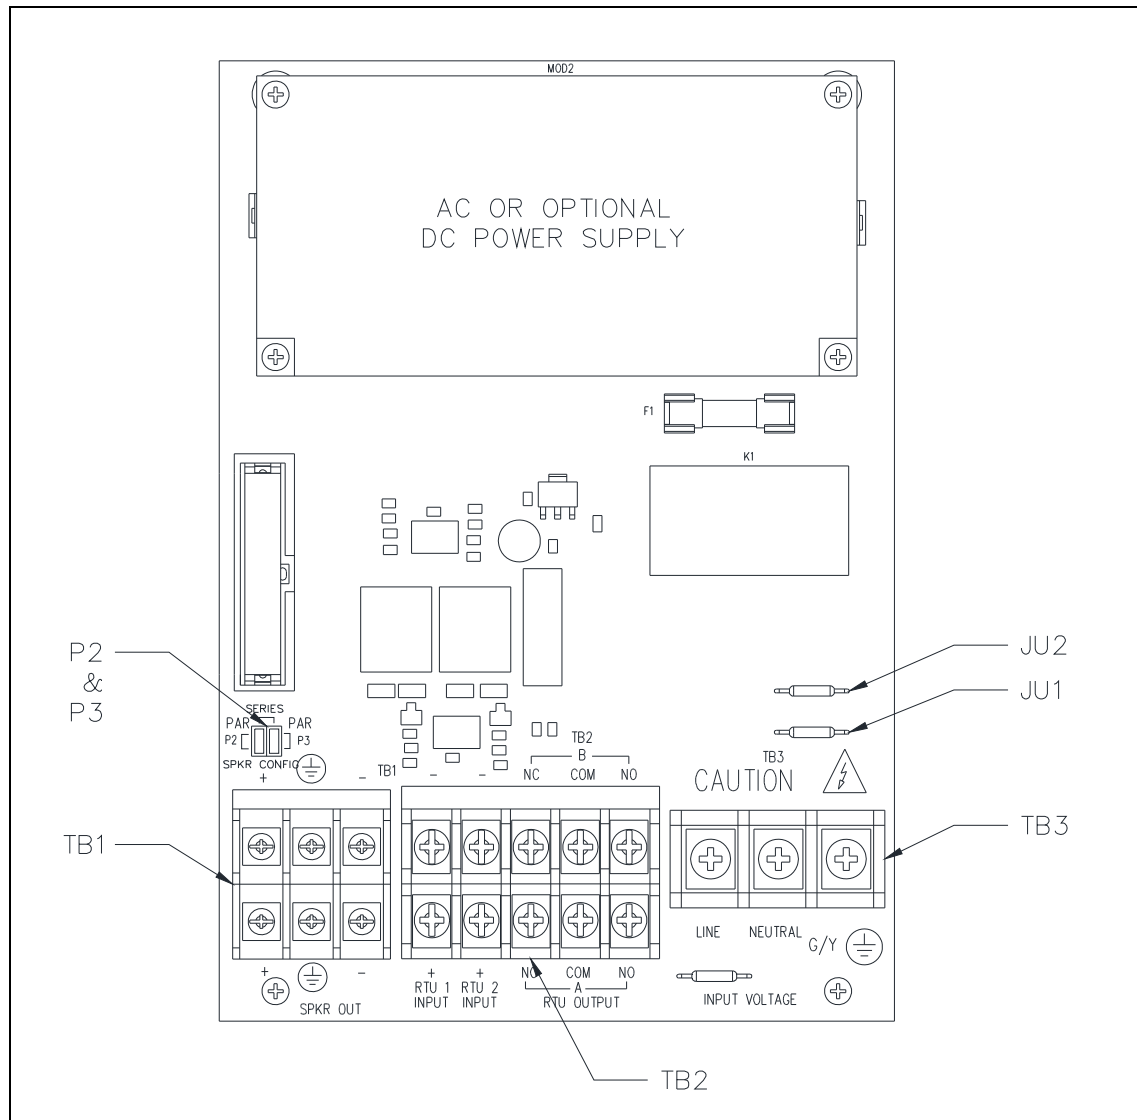
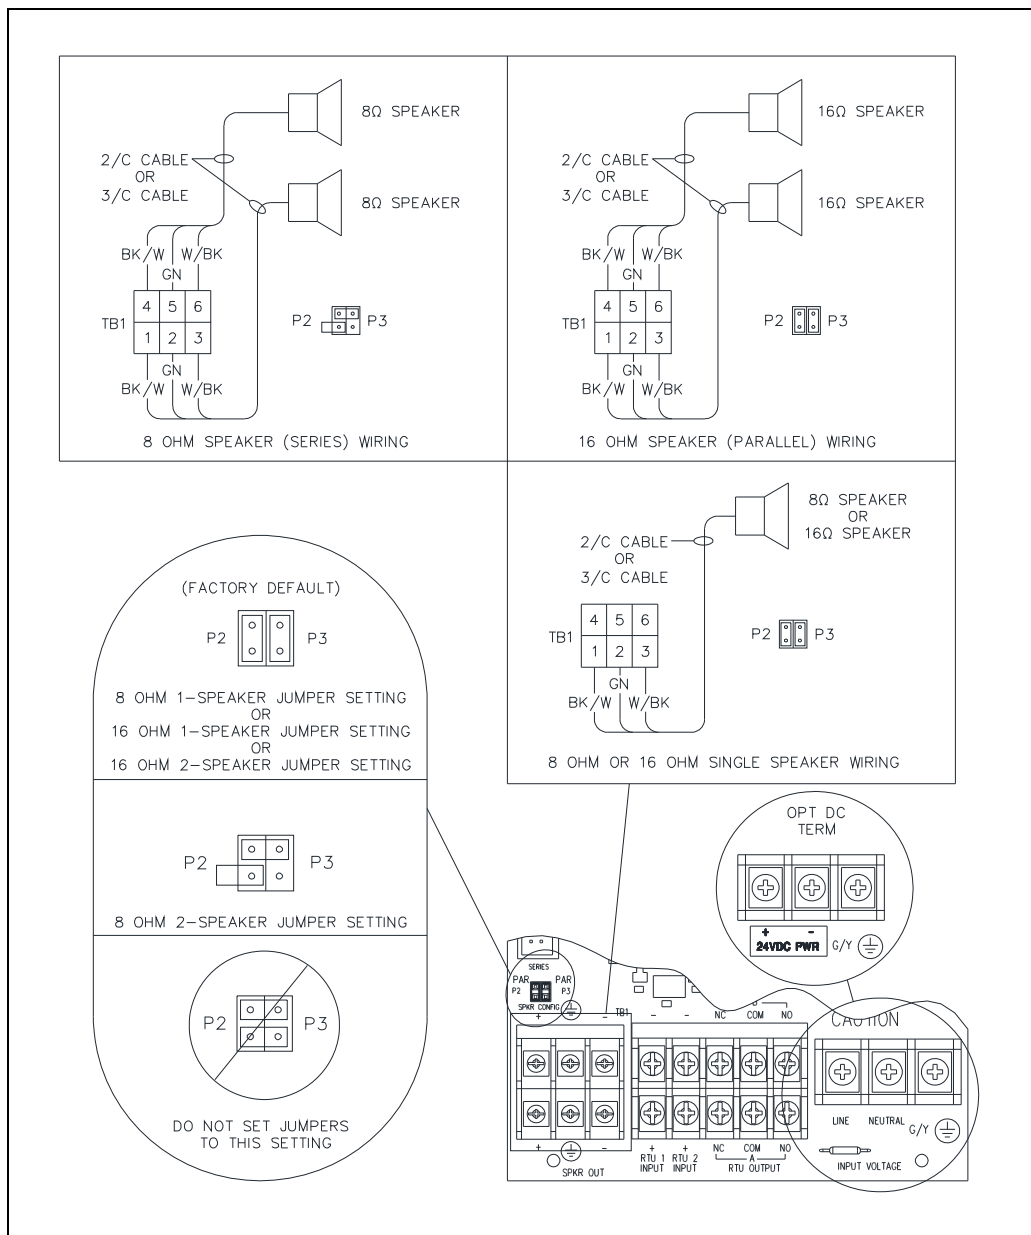
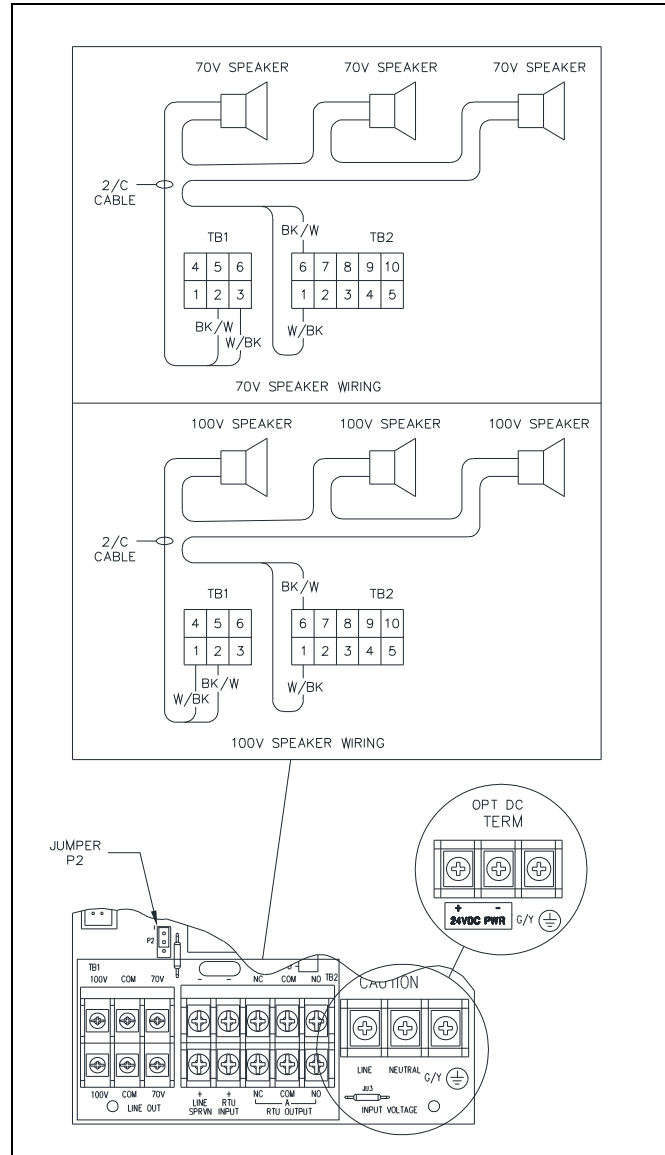
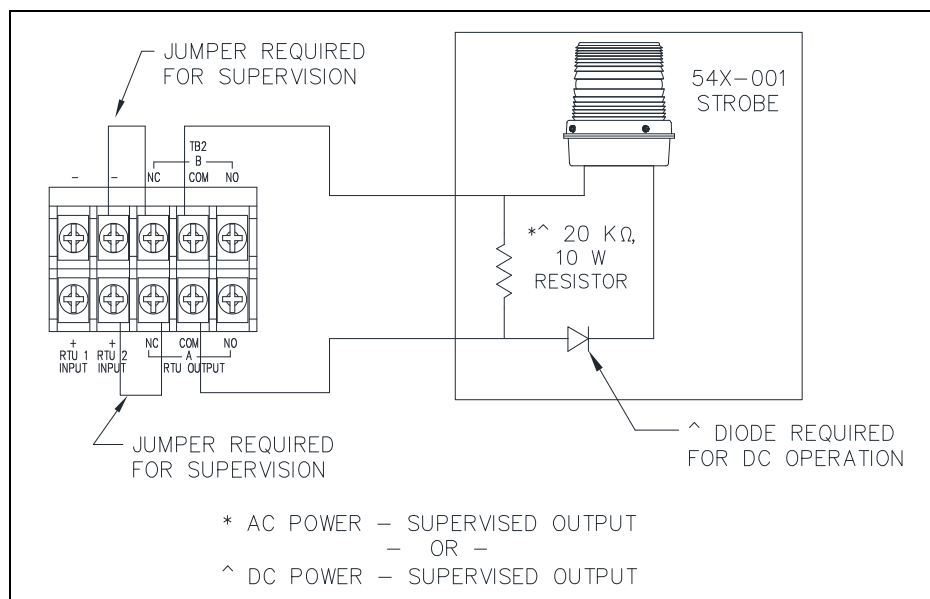

Figure 4. SP2 Standard Termination PCBA
Figure 5. 8/16-ohm Speaker Impedance Configuration and AC/DC Termination at TB3
Figure 6. 70-V/100-V Termination PCBA
Figure 8. Supervised Output Wiring—TB2
5. Configure the speaker jumpers; P2 and P3, for the appropriate impedance for use with 8-ohm or 16-ohm speakers (see Figure 4 and Figure 5).
The optional 70-volt/100-volt speaker line-monitoring PCBA replaces the standard termination board and enables connection of 70-volt and/or 100-volt speakers to the SP2 station. Terminate the station’s speaker loop(s) to terminal block TB1. Wire all speakers in parallel. Monitor one speaker loop for faults by terminating the return cable to the LINE SPRVN terminals at terminal block TB2 (see Figure 6 and Table 2).
The termination PCBA contains two auxiliary RTU inputs. The optional 70V/100V termination board provides for speaker line monitoring and has just one auxiliary RTU input. These inputs are terminated at terminal block TB2 (see Figure 5 or Figure 6).
Two form C contacts are provided to power a beacon (see Figure 8). Terminate the outputs at terminal block TB2 (see Figure 4, Figure 5, and Figure 6). Configure the outputs for dry contact use by removing jumpers JU1 and JU2.
3. Connect the RTU output wires to terminal block TB2 (see Figure 8).
5. Install a 20-kilohm 10-watt resistor across the terminals of the beacon (see Figure 8).
6. Install jumpers at terminal block TB2 (see Figure 8) to enable cable monitoring.
The ac or optional dc power supply is mounted in the Zone 2/22 enclosure. Connect the local ac or dc power source to terminal block TB3 (see Figure 4, Figure 5, and Figure 6):